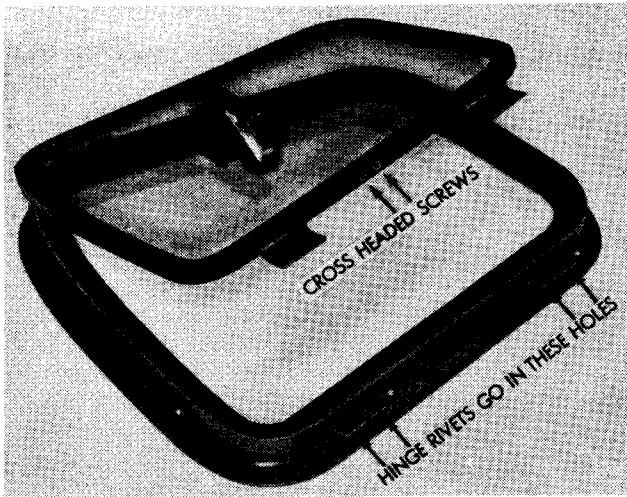

FIG. 1
2. Place the hinge across the open jaws of a vise and drive out the rivets. Be careful not to distort the hinges. Pull the window from the frame as shown in Fig. 1.